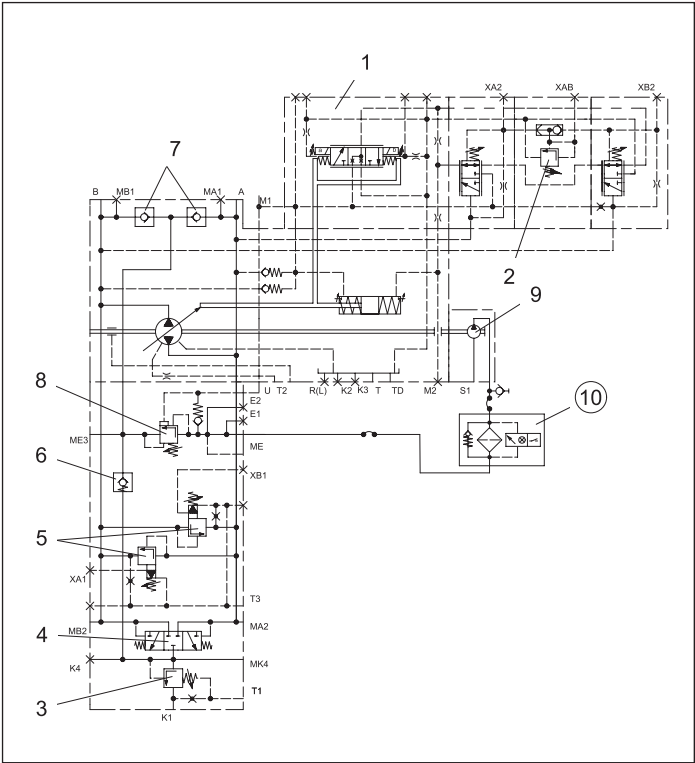

Fig. 36: Example Circuit diagram SP 180¹⁾
A boost circuit filter can be connected between boost(charge) pump and main pump (see Fig. 36 pos 10).